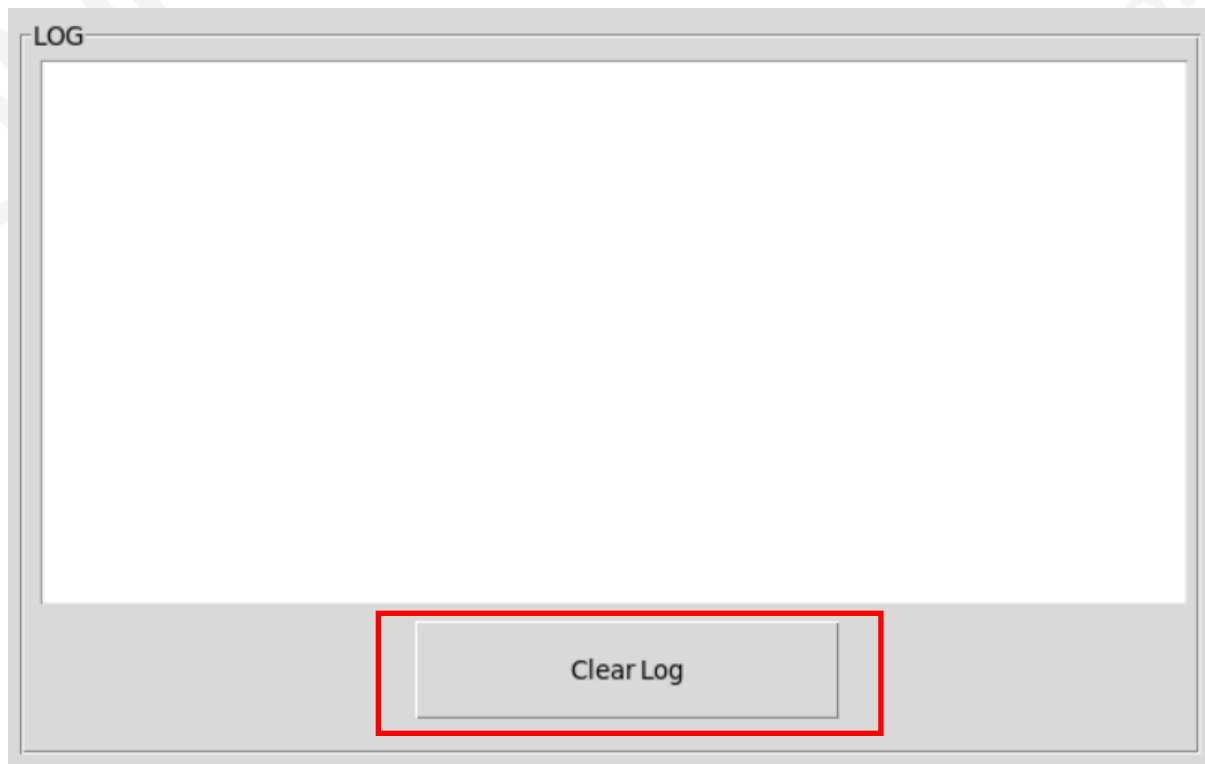

Figure 3.2-1 Clear Log button
When user operates GUI , transmit “Command Frame” to module, The LOG Block text view will show “Response frame” information log as show in Figure 3.1-1 and Figure 3.2-1
**“[Error]”** : Which error code and error category as show in Figure 3.2-1.
“Clear Log” button is used to clear text view as shown in Figure 3.2-1.